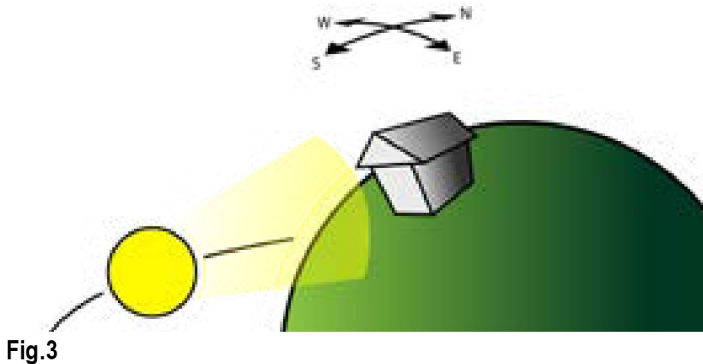

Fig.3
I. South facing surfaces could receive full sunlight for the entire day based on extenuating circumstances and weather (Fig. 3). These surfaces (roofs, walls) are often the best choice for mounting the solar panel if possible.